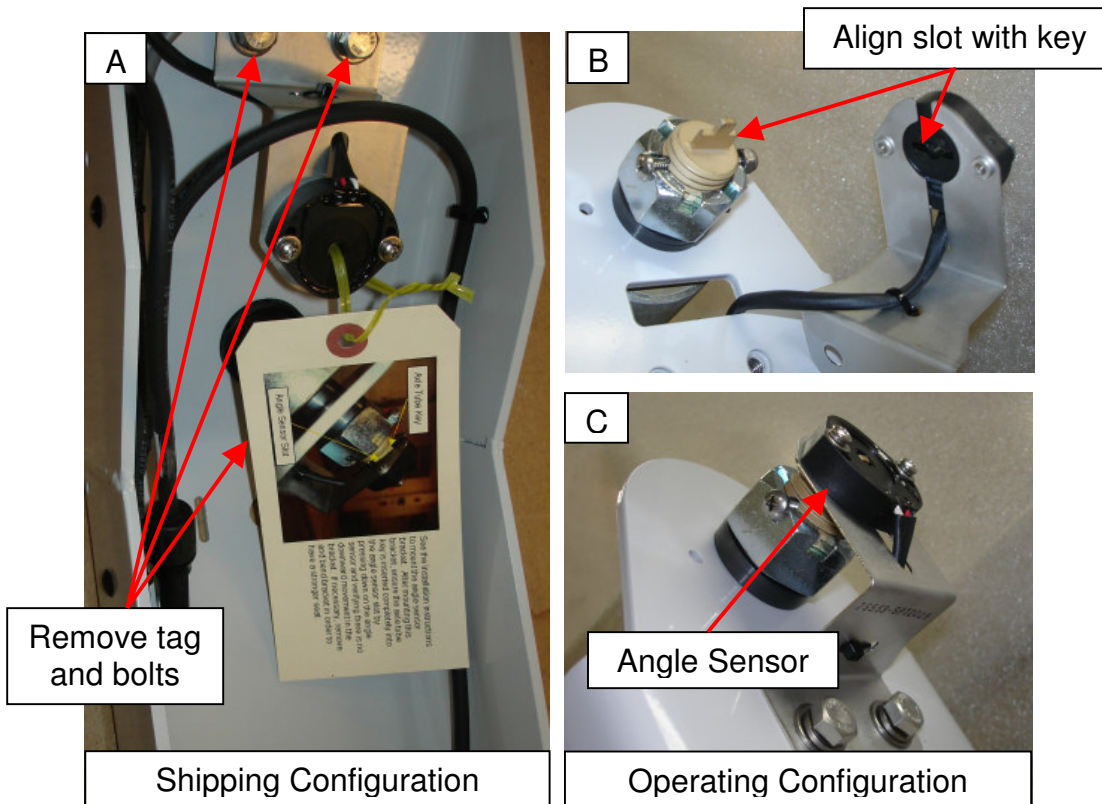

Figure 7
- The Angle Sensor and bracket is temporarily mounted inside the frame to help protect it during shipment. To mount the sensor for operation on the outside of the frame, (A) remove the tag and the two bolts that mount the sensor bracket to the frame. (B) Route the sensor and bracket around the outside and feed the excess cable back through the frame hole. Orient the angle sensor slot to match the axle tube key as shown in Figure 7. (C) Mount the bracket on the outside of the frame using the same hardware. Ensure the axle tube key is completely seated in the angle sensor slot.